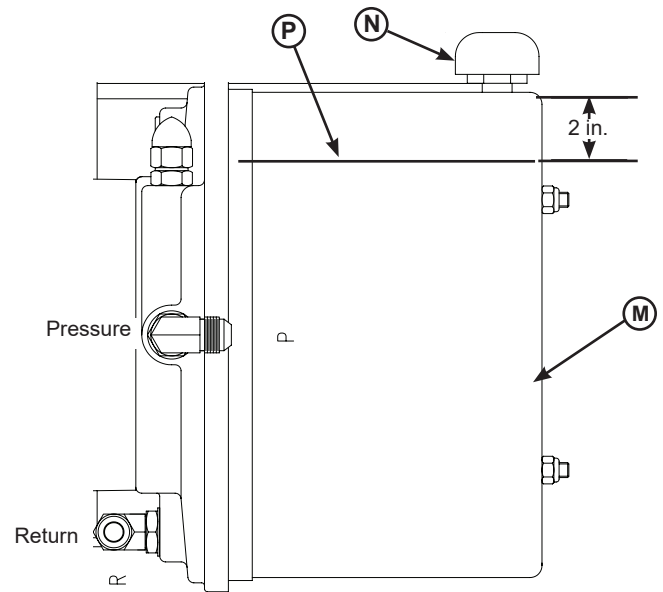

Figure 30
- Check reservoir fluid level (P, see Figure 30):
3. Remove breather cap (N).
4. Measure fluid level. The fluid level should be approximately 2 in. (51 mm) from top of reservoir (M) with platform stored and the lip in the folded position.